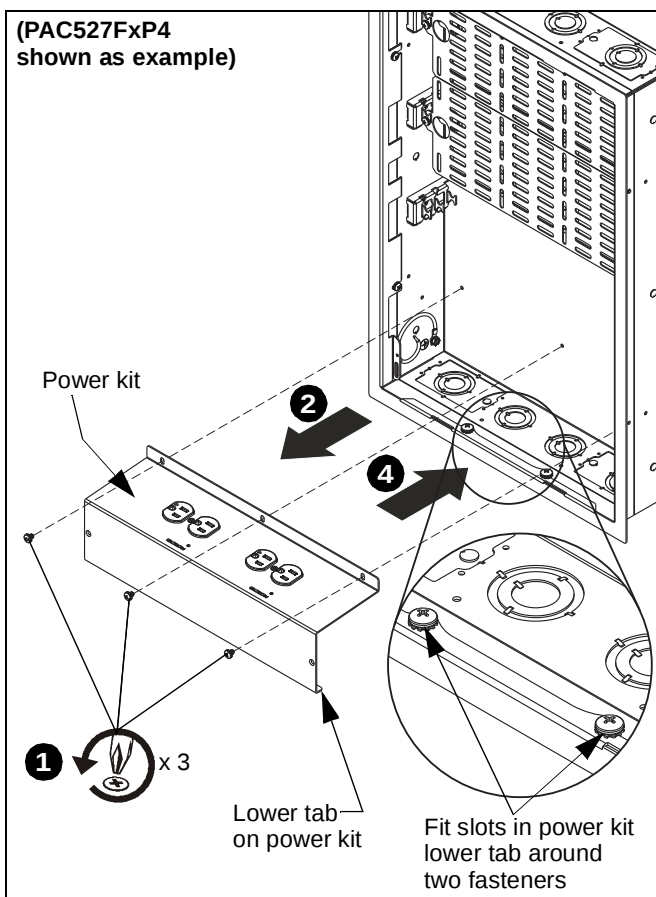
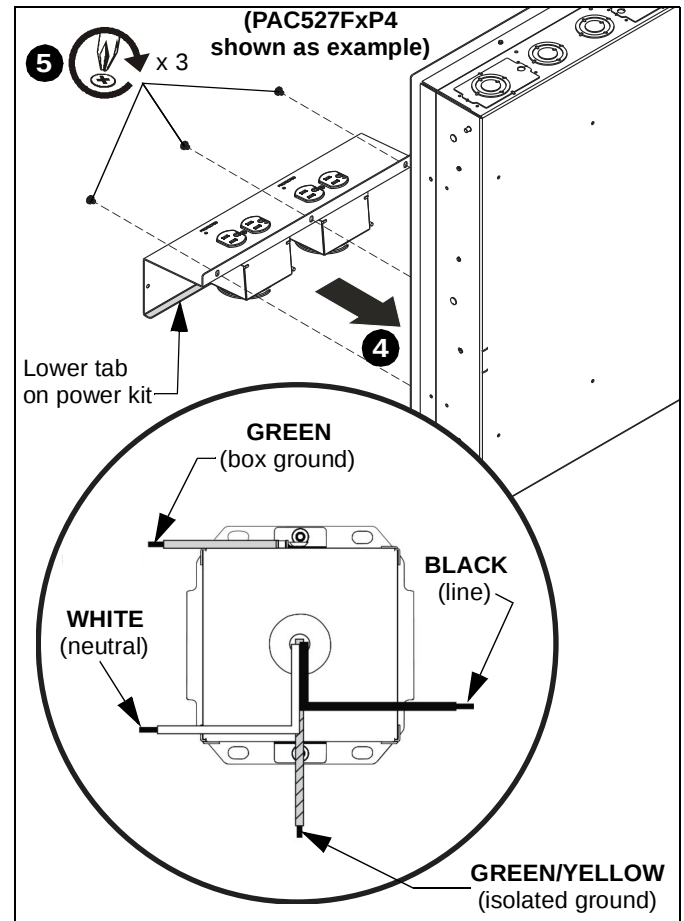

Figure 1
Figure 2
1. Remove and save three Phillips head screws holding power kit within box. (See Figure 1)
2. Remove the power kit from the in-wall box. (See Figure 1)
3. Wire the outlet box(es) as required. Refer to Table 1 and Table 2 for input and output specifications. (See Figure 2)
4. Replace the power kit in the PAC527, fitting the two slots in the power kit lower tab around two fasteners in the PAC527. (See Figure 1) and (See Figure 2)
5. Tighten three Phillips screws to secure power kit in the PAC527. (See Figure 2)